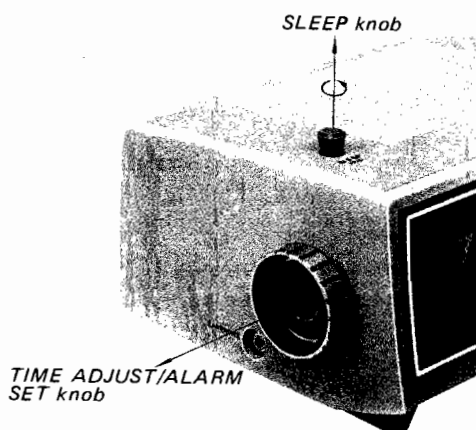

Fig. 2-1
1. Pull out the three knobs (TIME ADJUST, ALARM SET, SLEEP) shown in Fig. 2-1.